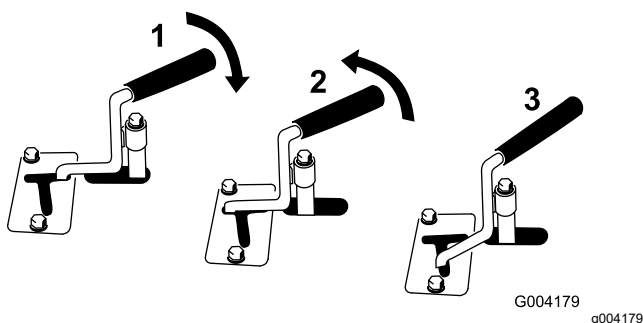

Figure 12
- To operate a hydraulic attachment in the forward direction, rotate the auxiliary-hydraulics lever rearward and pull it down to the reference bar (Figure 12, number 1).
- To operate a hydraulic attachment in the reverse direction, rotate the auxiliary-hydraulics lever rearward, then move it left into the upper slot (Figure 12, number 2).
Note: If you release the lever while in the FORWARD position, the lever automatically returns to the NEUTRAL position (Figure 12, number 3). If it is in the REVERSE position, it remains there until you pull it out of the slot.